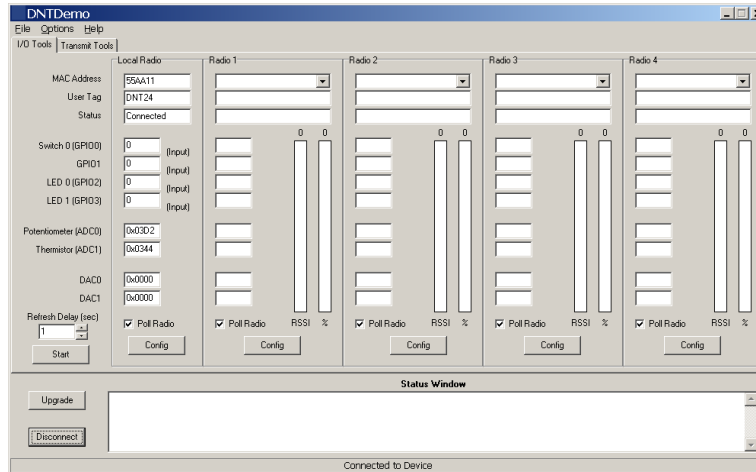

Figure 6
8. At this point the Demo will collect data from the *Base*, filling in the *Local Radio* column on the Demo window as shown in Figure 6.